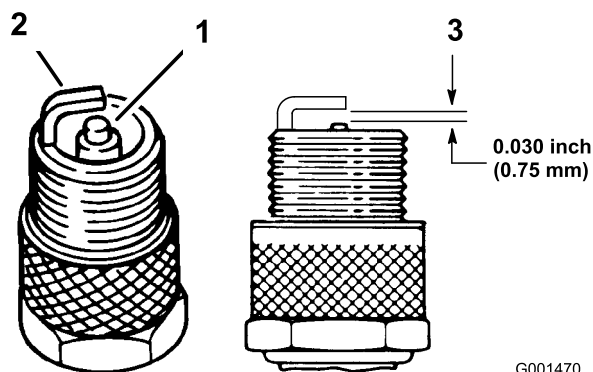

Figure 23
1. Look at the center of the spark plugs (Figure 23). If you see light brown or gray on the insulator, the engine is operating properly. A black coating on the insulator usually means that the air cleaner is dirty.
2. Check the gap between the center and side electrodes (Figure 23). Bend the side electrode (Figure 23) if the gap is not correct.